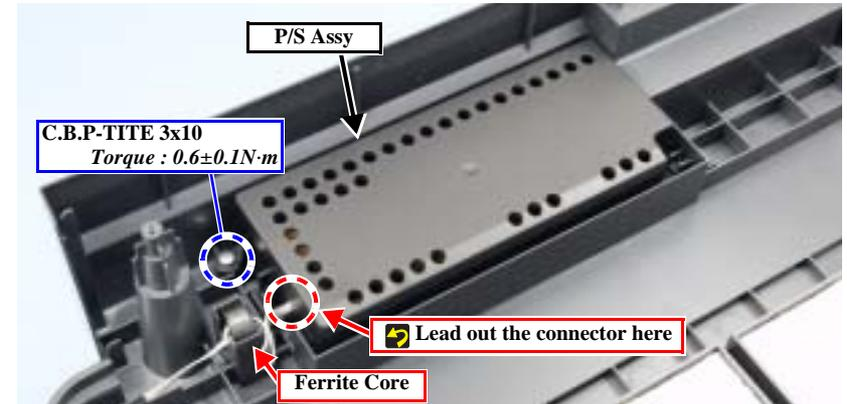

Figure 4-32. Removing the P/S Assy
2. Remove the screw securing the P/S Assy, and remove it from the Housing Lower. (Fig. 4-32)